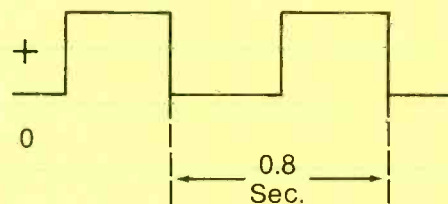

Figure 2. The approximate waveform at pin 6 of NAND gate 2.
The "heart" of the scanner is a quad 2-input NAND gate like the 7400 type. Two of the NAND gates (labeled gates 1 & 2) are connected to form an astable multivibrator. The frequency of the multivibrator is determined by the values of C11, R18, C10 and R19. Because  $C11 = C10$  and  $R18 = R19$ , the output waveform at pin 6 (NAND gate 2) will have a 50% duty cycle with a time period of approximately 0.8s. The waveform is shown in Figure 2.
All machines use a searchcoil consisting of two or more coils in a single housing that scans as close to the earth's surface as possible. Incidentally, these are almost always white in color, so the reflection of the sun's rays helps keep the coil stable. The transmit coil produces a magnetic field that is radiated in all directions with the strongest concentration being directly above and below the searchcoil (Figure 2).
**Figure 2.** A magnetic field radiates in all directions from the searchcoil, with the heaviest concentration directly above and below the coil. A target will give the strongest indication in the center of the field.